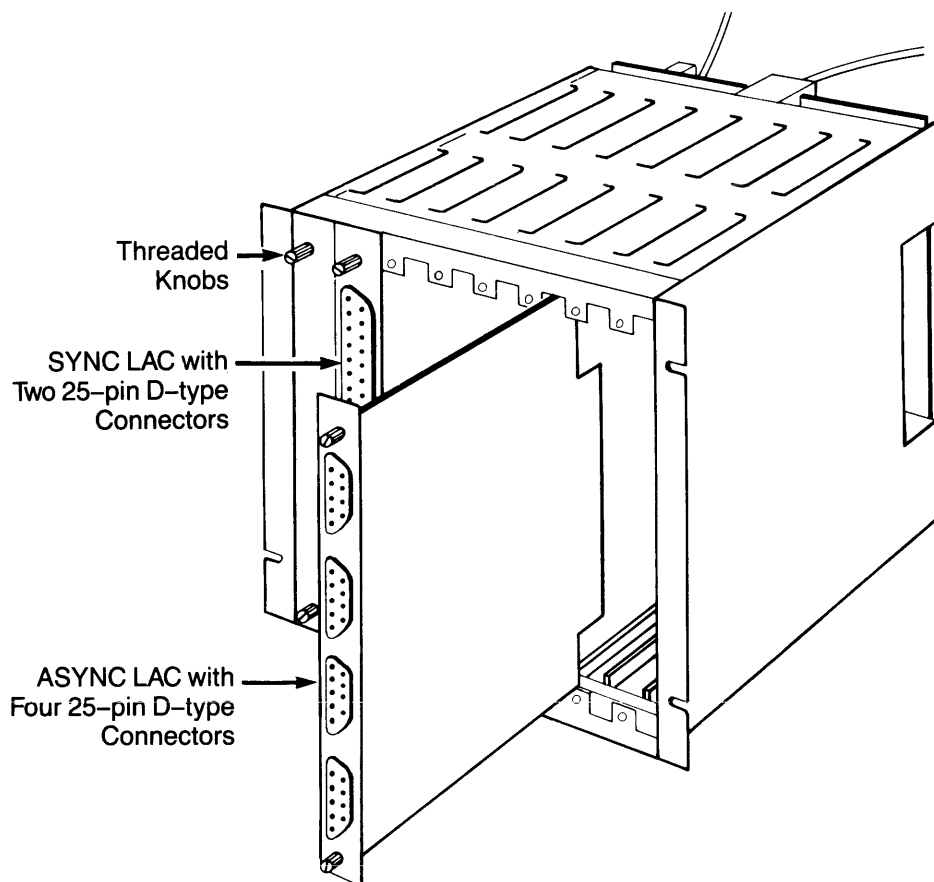

FIGURE 1-5. An 8-slot ICS3 Card Cage
ICS card cages contain a maximum of 16 line adapter cards, each supporting four asynchronous or two synchronous lines. Use the optional ICS CARDS configuration directive to have PRIMOS report, at cold start, any inconsistencies between the expected LAC configuration and the actual configuration. For more information on this directive, see Chapter 3, Useful Configuration Directives. Figure 1-5 shows an 8-slot ICS3 card cage loaded with one 2-line synchronous LAC and one 4-line asynchronous LAC.
9. For ICS3 Controllers: Screw in the threaded knobs at the top and bottom of the card as shown in Figure 1-5. Proceed to step 13 below.